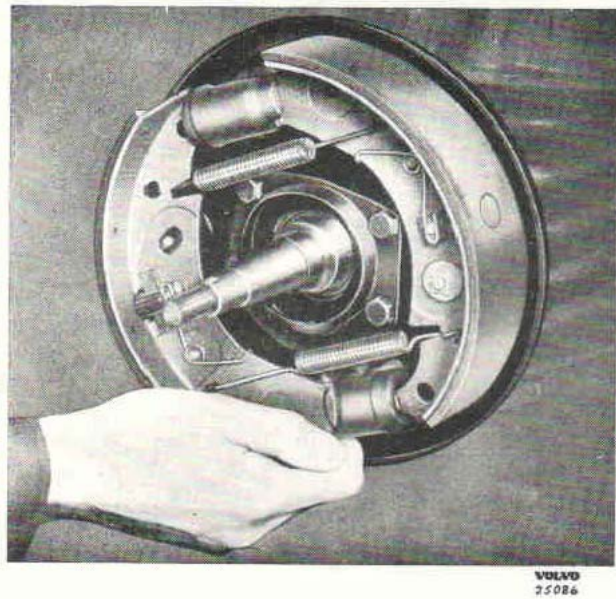

Fig. 17. Removing the brake shoe.
3. Remove the locking washer and other washers from the stud for the adjusting cam on the front brake shoe. Remove the shoe and springs as shown in Fig. 17. Remove the rear shoe in the same way.
3. Hook on the return springs to both shoes and fit the front shoe, see Fig. 17. Fit the locking arrangement as described above.